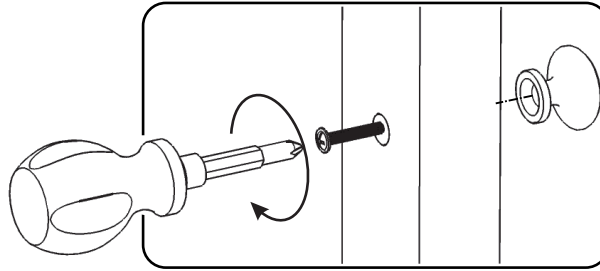

Figure 6
Attach Knob to Door (J) with Machine Screw. (See Figure 6)